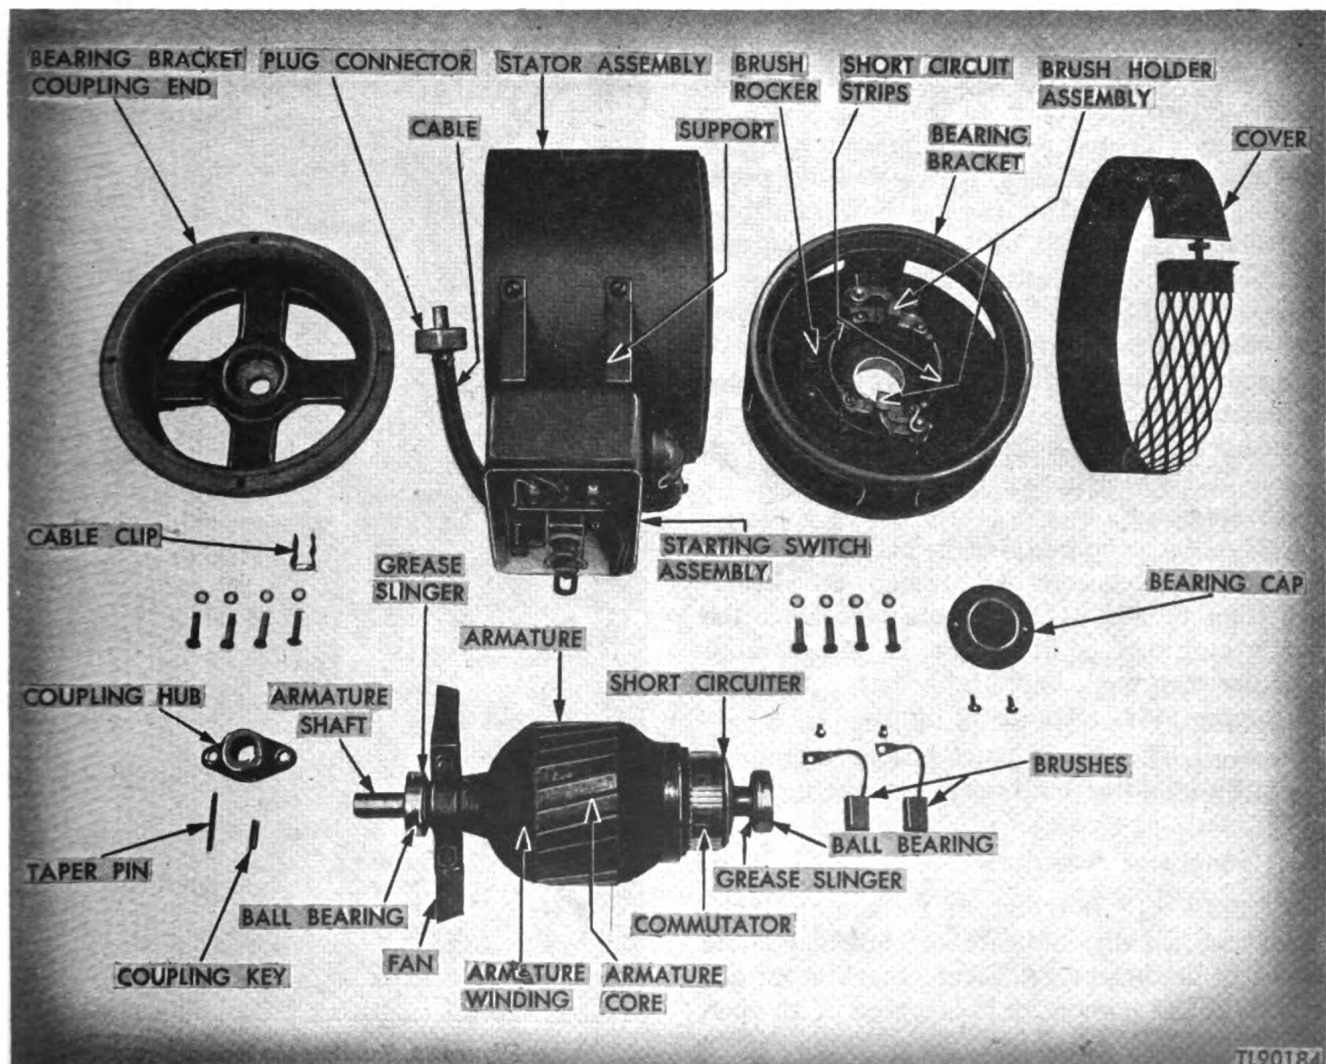

Figure 88. Motor MO-37-A—disassembled.
b. **BRUSHES AND BRUSH HOLDERS** (fig. 88). (1) The brushes carry practically no current except during starting. Therefore they have a very slow rate of wear and should not require frequent replacement.
(2) Make a periodic inspection of the brushes and brush holders. Accumulation of carbon dust on the brush holders is an unavoidable result of brush wear. Should this accumulation become excessive, it may interfere with the movement of the brushes in the brush holders and thereby cause improper functioning of the short-circuiting device. It is therefore good practice to blow out the carbon dust when the motor is inspected or serviced. Wiping off the dust with a cloth saturated with dry-cleaning solvent (SD) is also recommended.
(3) Do not remove the brushes from the brush holders (fig. 88) unless it is absolutely necessary for replacement or major cleaning operations. If brushes are removed and found to be still in good condition, put them back in the same holders and in the same position they originally occupied.
(4) To replace a worn or broken brush, disconnect the pigtail from the brush holder, lift the pressure finger, and pull the brush out of the brush-holder box. Place a new brush in the box. Before connecting the pigtail, be sure the brush can move freely in the box.
(5) Proper contact of brushes on the commutator is very essential for proper operation. It is advisable, therefore, to sand in the contact surfaces of new brushes when they are installed. (See par. 101e.)
(6) The brush rocker is marked with a paint line. A similar line is painted on the inside of the motor bearing-bracket. When these two lines coincide the rocker is in proper operat-
c. **MOTOR COMMUTATOR.** (1) The commutator (fig. 88) of Motor MO-37-A is equipped with a short-circuiting starting device. (See e below.)
(2) To insure good contact with the brushes and proper operation of the short-circuiting device, the commutator should be maintained in the same manner as described in paragraph 101.
d. **MOTOR ARMATURE.** (1) If the motor does not operate properly or fails to start, there may be an open or short circuit in the armature winding. (See fig. 88.)
(2) If an open circuit should occur in the armature winding, it will usually cause severe burning on a commutator bar and the motor will not run at proper speed under load.
(3) The short-circuiting starting device mounted on the commutator end of the armature shaft can be removed, if necessary. (See e below.)
(4) If it becomes necessary to replace the motor armature, proceed as outlined in paragraph 102.
e. **SHORT-CIRCUITING.** (1) Keep the short-circuiting device (fig. 88) free from dirt and dust. The best way to do this is with a jet of low-pressure air or with a hand bellows.
(2) If the starting device fails to function, too strong a spring tension is indicated.
(3) When it is necessary to remove or replace the short-circuiting device for any reason, proceed as follows:
g. **MOTOR BEARINGS.** The motor armature shaft rotates in two ball bearings (fig. 88) of exactly the same type as those used in Generator GN-39-F. They are located in the brackets at each end of the motor. If it becomes necessary to replace the commutator end bearing